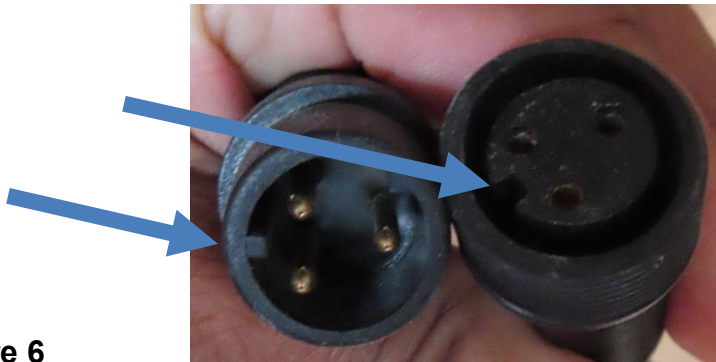

Figure 6
1. First, you will want to connect the cord connections to their respected counterparts that will be behind the BENCH SUPPORT. Make sure that the connections are connected properly per the slot cut out. See Figure 6. Also, you want to locate the thin blue antenna wire at the circuit connection box and uncoil it and stretch it out.